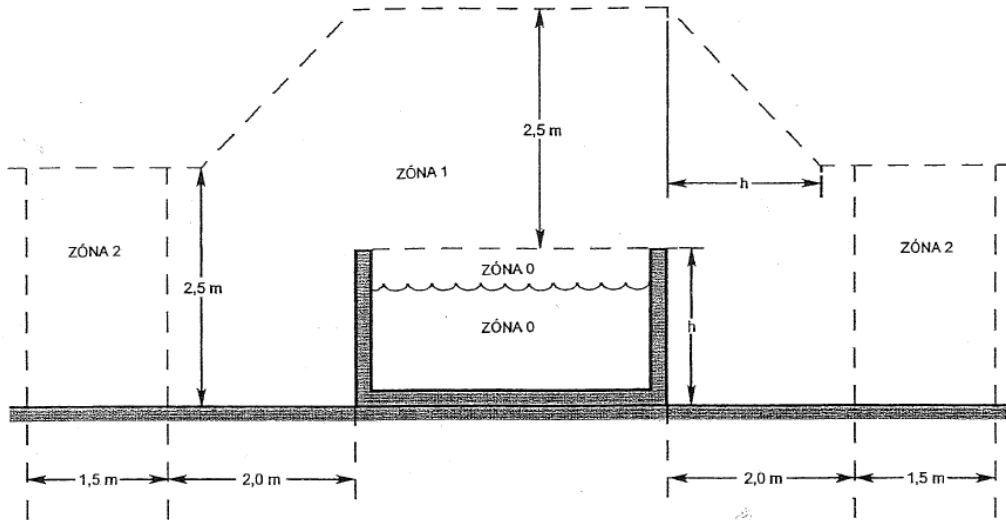

Fig. 5
- The counter-flow unit should be connected to the mains supply *via* the motor starter, the fuse and the over-current circuit breaker. See the wiring diagram for specification. Failure to install those safety devices poses a threat to the public and may result in an electric injury. Hose devices shall be located outside of the pool protective area (formed by zones 0, 1 and 2) to ČSN 33 2000-7-702 Standard, which extends to the distance of 3.5m from the pool perimeter wall, see Fig. 5.